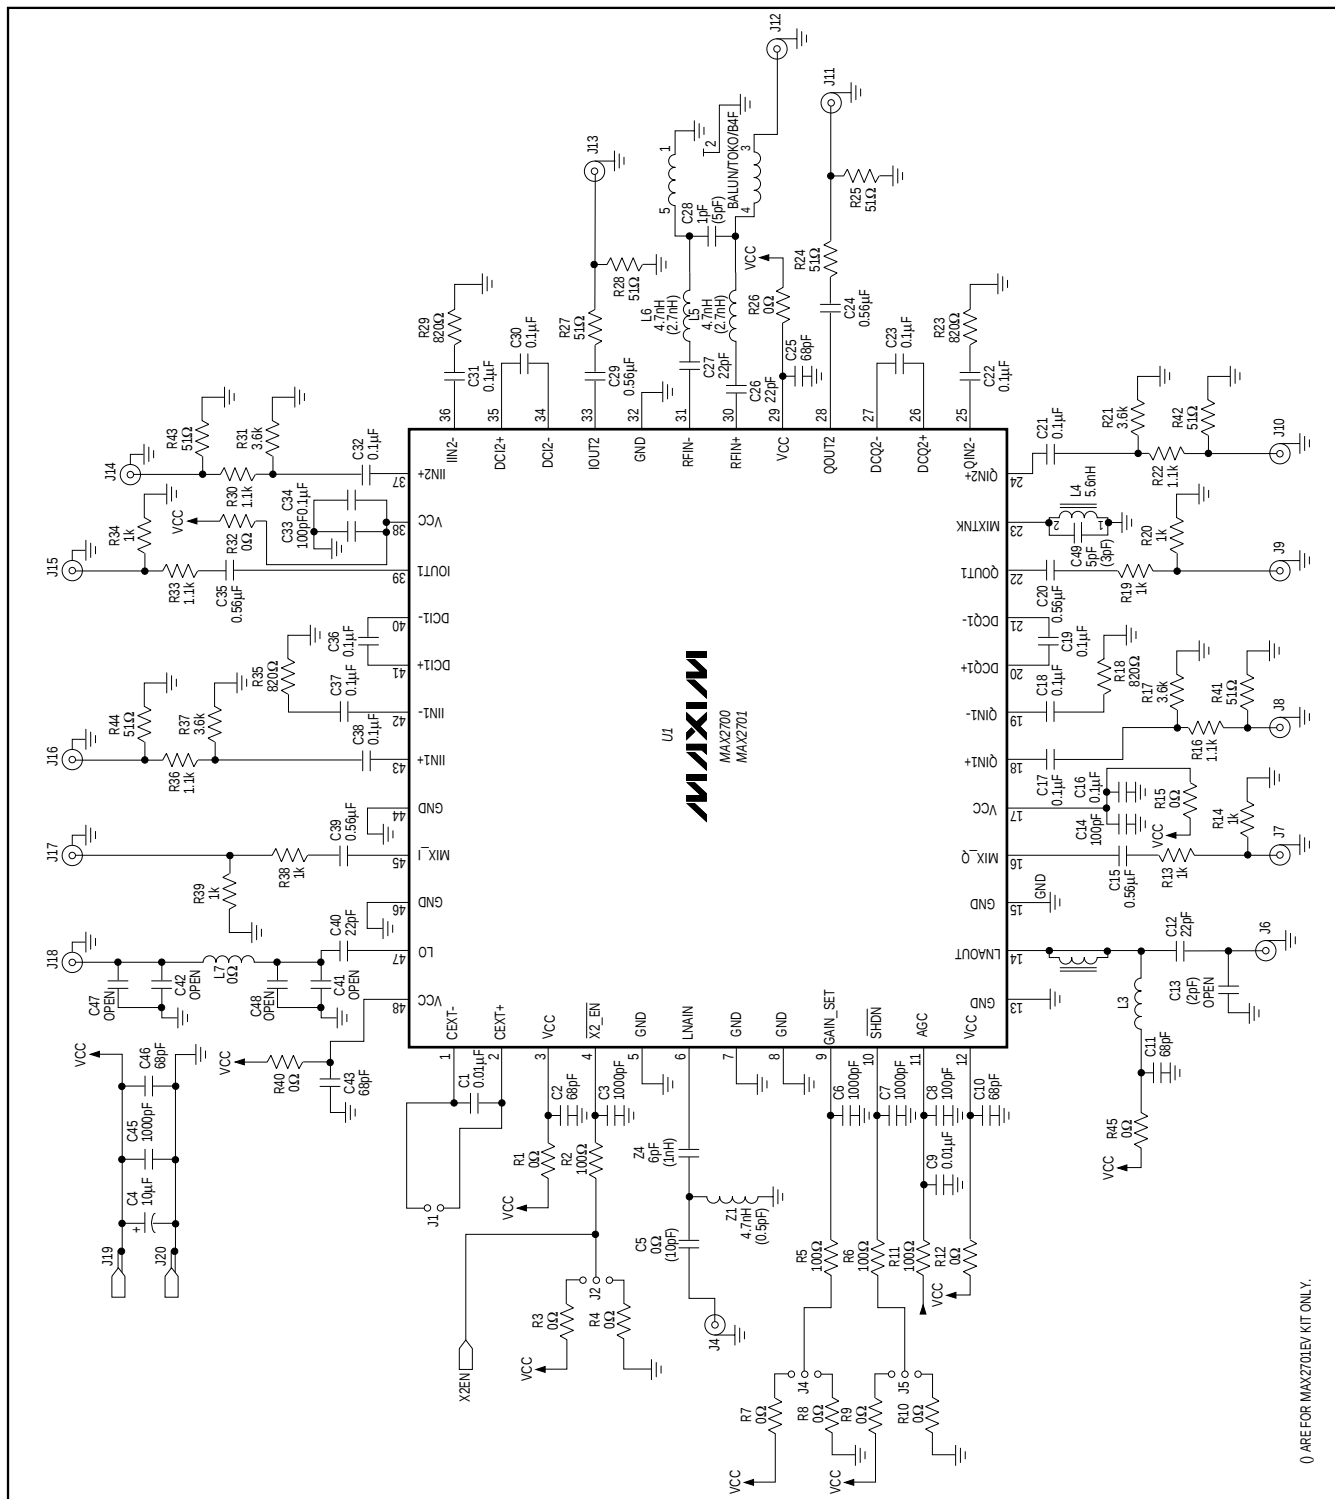

Figure 3. MAX2700/MAX2701 EV kit Schematic
(MAX2700/MAX2701 EV kit (Figure 3), $V_{CC} = +3.0V$, $T_A = +25^\circ C$, $\overline{SHDN} = GAIN_SET = V_{CC}$, $\overline{X2_EN} = GND$, CEXT+ connected to CEXT-, $P_{LO} = -13dBm$, $F_{LO} = 980MHz$ (MAX2700) and $1200MHz$ (MAX2701), $P_{LNAIN} = -30dBm$, $P_{RFIN} = -25dBm$, LNAIN and RFIN (single-ended input to balun) driven from 50Ω source, LNAOUT terminated into load; MIX_I, MIX_Q AC-coupled to $2k\Omega$ load; IIN1+, QIN1+, IIN2+, QIN2+ driven from $1.1k\Omega$ AC-coupled source; IOUT1, QOUT1 AC-coupled to $2k\Omega$; IOUT2, QOUT2 AC-coupled to 100Ω ; input to VGAs, $20mVp-p$ at $1MHz$ tone, set $V_{AGC} = 1.25V$, unless otherwise noted.)
*C19, C23, C30, C36 in the EV kit schematic in Figure 3 represent DC offset capacitors.